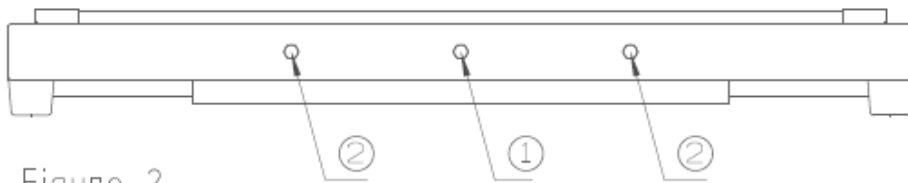

Figure-2
b. Supply air in the order shown in Figure-2.